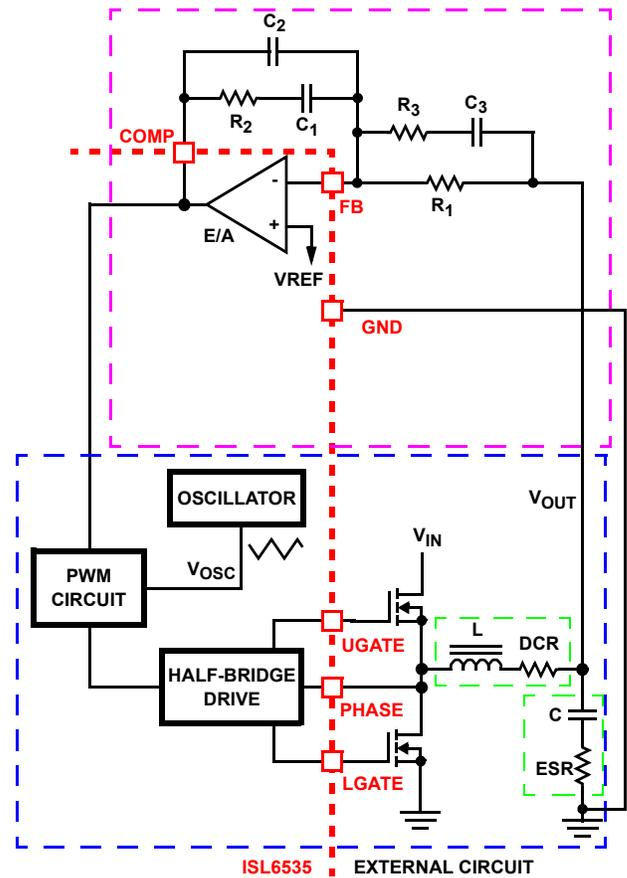

FIGURE 7. VOLTAGE-MODE BUCK CONVERTER COMPENSATION DESIGN
Figure 7 highlights the voltage-mode control loop for a synchronous-rectified buck converter. The output voltage is regulated to the reference voltage level. The error amplifier output is compared with the oscillator triangle wave to provide a pulse-width modulated wave with an amplitude of  $V_{IN}$  at the PHASE node. The PWM wave is smoothed by the output filter. The output filter capacitor bank's equivalent series resistance is represented by the series resistor ESR.
1. Select a value for  $R_1$  (1k $\Omega$  to 10k $\Omega$ , typically). Calculate value for  $R_2$  for desired converter bandwidth ( $F_0$ ). If setting the output voltage to be equal to the reference voltage as shown in Figure 7, the design procedure can be followed as presented. As the ISL6535 supports 100%